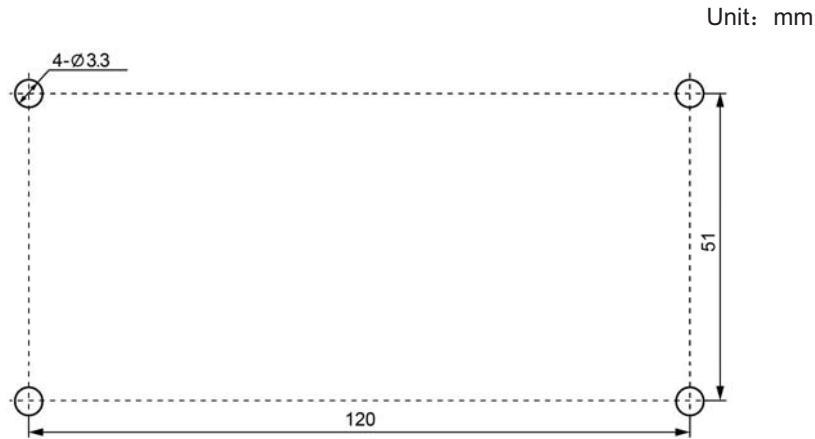

Fig. 3.13 Installation holes for rear cover of electric box
- 2) When the centralized controller is installed in the control cabinet, drill 4 installation holes on the wall of the control cabinet according to the position shown in Figure 3.13.
- 3) In step①, pull out the power cord and communication cable, and pass through different wire holes on the back cover of the electric box respectively, and it is strictly forbidden to pass through the same wire hole.
- (4) In step②, use ST4.2×16 FA screws to fix the rear cover of the electric box and the installation holes on the wall.
- (5) In step ③, pull out the connecting wire between the touch screen and the rear cover of the controller, and put the touch screen in a safe place.
- (6) In step ⑤, connect the communication cable to the G1 and G2 terminals, connect the zero and live wires of the power cord to the L and N terminals; connect the earth wire to the rear cover  of the electric box, and fix it with M4×12 screws.
- (7) In step ⑥, use ST3.9×9.5 PA screws to fix the rear cover of controller to the rear cover of electric box.
- (8) In step ⑦, plug the connecting wires between the touch screen and the rear cover of the controller together.